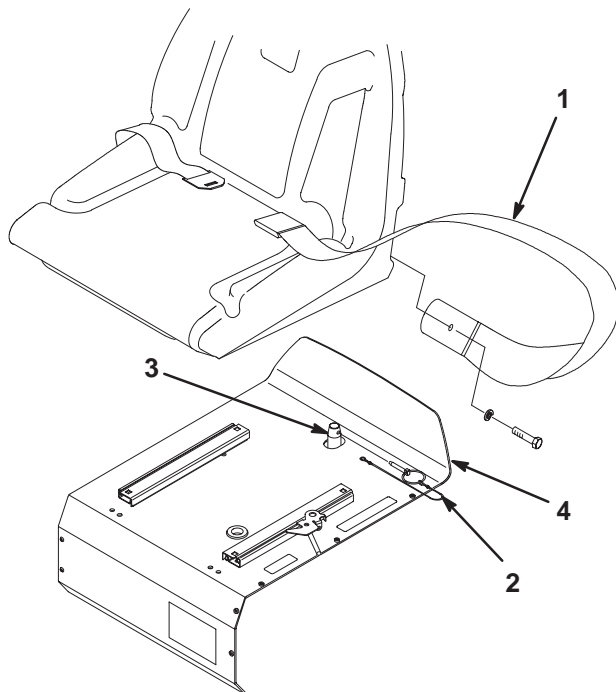

Figure 1
1. Attach each end of the seat belt to the holes in the back of the seat with screws (7/16 x 1 in.) and lock washers (7/16 in.) (Fig. 1). Tighten them securely. Mount the latch side of the belt to the left side of the seat.
2. Install the lynch pin into the seat pin to secure the seat support (Fig. 1).